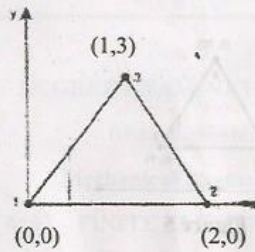

Figure 3
13. (a) Calculate the element stiffness matrix and the temperature force vector for the plane stress element shown in fig. 3. The element experiences a 20°C increase in temperature. Assume coefficient of thermal expansion is $6 \times 10^{-6} \text{ C}^{-1}$. Take $E = 2 \times 10^5 \text{ N/mm}^2$, $\nu = 0.25$, $t = 5 \text{ mm}$. (16)